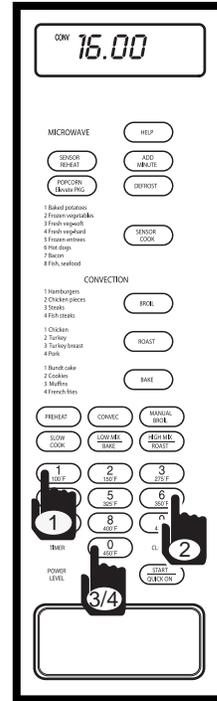

Figure 3-82.
2. Enter desired cooking time. Press number 1 key, number 6 key, and number 0 key twice “16.00” will flash on display. (See Figure 3-82)